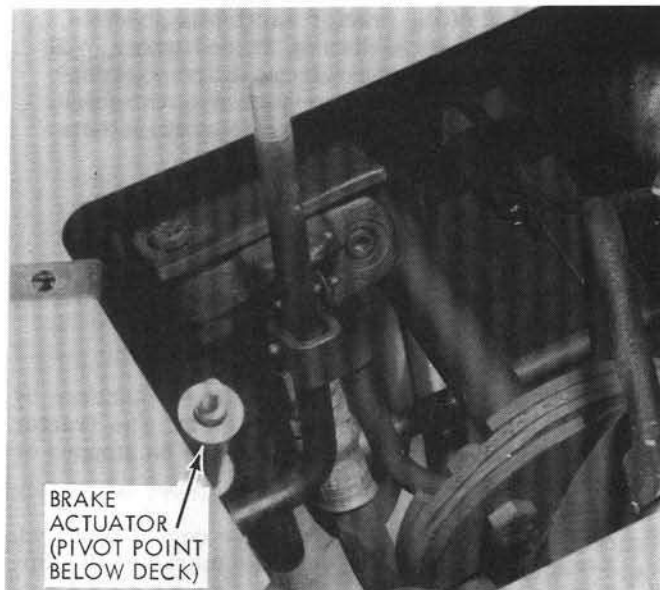

Figure 11.
Refer to the accompanying Lubrication Chart (Figs. 11, 11-A, 11-B, and 12) and the figures stated in the following:
1. BRAKE ACTUATOR AND PIVOT. Grease these pivot points (Figure 11).
3. LIFT LINKS. Sliding surfaces and slotted holes (Figure 11-A). Ref. No. 1